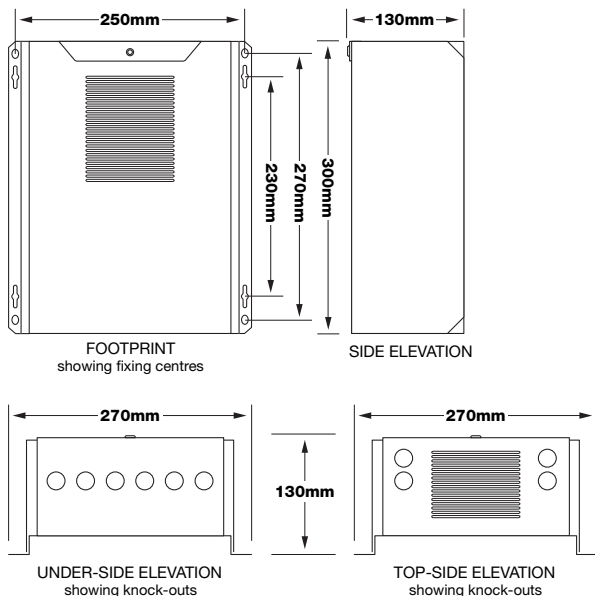

FIG 1. MULTI-OUTLET VOLTMASTER
Switch off mains electrical supply before commencing installation. Feed mains supply cable through cable clamp and connect wires into respective terminals in terminal block (Fig.1:J). VoltMaster must be earthed. To ensure the mains cable does not touch the transformer, avoid excessive cable inside VoltMaster.
Lamps up to the total max unit rating may be connected to the track, high wire or distribution box. Track is connected to the large terminal block (Fig.1:H, Fig 2:H) – which accepts up to 10mm² cable.
Lamps are individually wired back to the individual multi-outlet terminal pairs (Fig.1:A). Each individual terminal pair will accept a single cable of up to 4mm². Thicker cable or multiple cables could be terminated into suitable pin or blade crimps or junction box to facilitate connection to the terminal pair.
Feed the necessary cables to the luminaire(s) through the cable clamps if used. Securely connect cable(s) to appropriate terminal pairs (Fig.1:A/H). Tighten the cable clamps.
VoltMaster is supplied fitted with quick acting (ceramic) F10A fuses (max 75W per terminal pair) (Fig.1:K).
The analogue signal is connected to the terminals (Fig.1:C)
VoltMaster can be controlled by any Multiload RPS3 rotary control module, which connects to terminals **C1 C2 C3** (Fig.1:C). Maximum cable size 2.5mm². Several VoltMasters may be connected to a single module.
It is imperative that the sensing cable (Fig.1:L) is connected on installation. Failure to connect this cable will cause the unit to deliver a reduced fixed secondary voltage to the luminaires.
Connect cable (Fig.1:L) into voltage sensing terminals (B) and the other end to the voltage sensing point. The sensing cable carries 11.8V (23.6V) RMS and hardly any current.
When the sensing cable is connected to a track, or similar, fed from the large terminals (Fig.1:H or Fig.2:H) we recommend sensing cables should be minimum 1.5mm². Thinner cable can be used if suitably protected at the voltage sensing point.
Each individual multi-outlet terminal pair (Fig1:A) is protected by a 10A (F) fuse. If a short circuit occurs on one of the outlets, either the fuse will blow immediately or VoltMaster will shut down for 10-15 secs and then restart. If shutting down the fuse will blow in the process which allows the remaining outlets to resume operation.